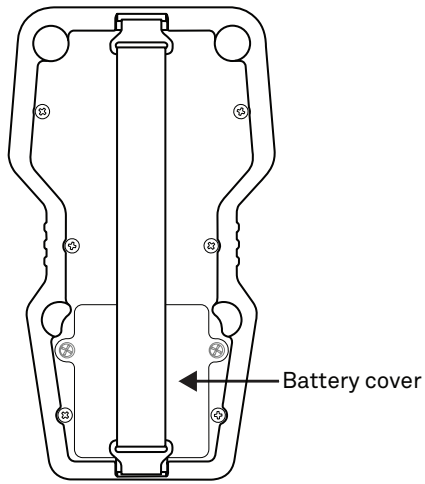

Figure 29 Battery cover
1. Turn the TEMPOS controller over and locate the battery cover in the lower section of the back panel (Figure 29).